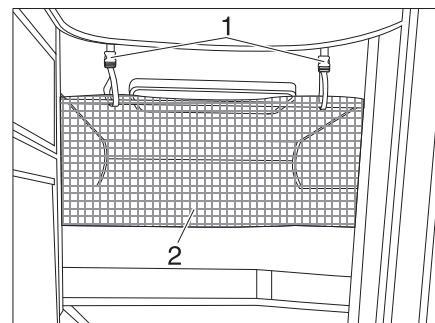

Fig. 163 Safety net
The safety net (Fig. 163, 2) is stored as standard between the mattress and slatted frame. Do not use the safety net until the person is already in bed.
- Fasten the retaining straps (Fig. 163, 1) to the holders on the ceiling.
Safety net The safety net (Fig. 163,2) is stored as standard between the mattress and slatted frame. Do not use the safety net until the person is already in bed.
Setting up: ■ Fasten the retaining straps (Fig. 163,1) to the holders on the ceiling.